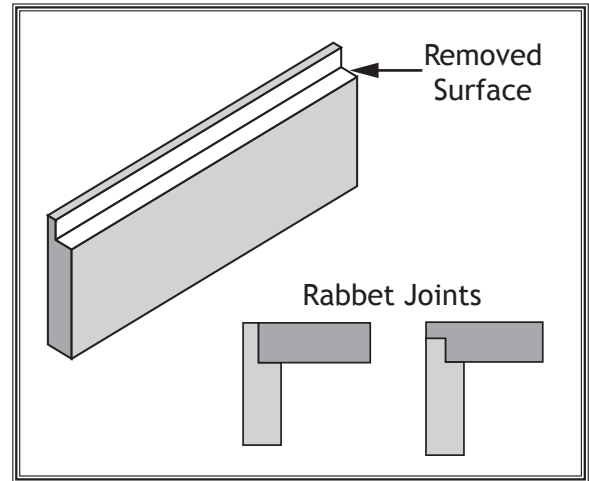

Figure 22. Rabbet joints.
A rabbet cut removes a portion of a workpiece edge, so it fits together with an opposing, equally sized rabbet cut on another workpiece (see **Figures 22–23**). This is a classic method of joining two workpieces that is simple, yet strong.
5. Remove cutterhead guard if necessary to perform operation (see **Figure 22**).